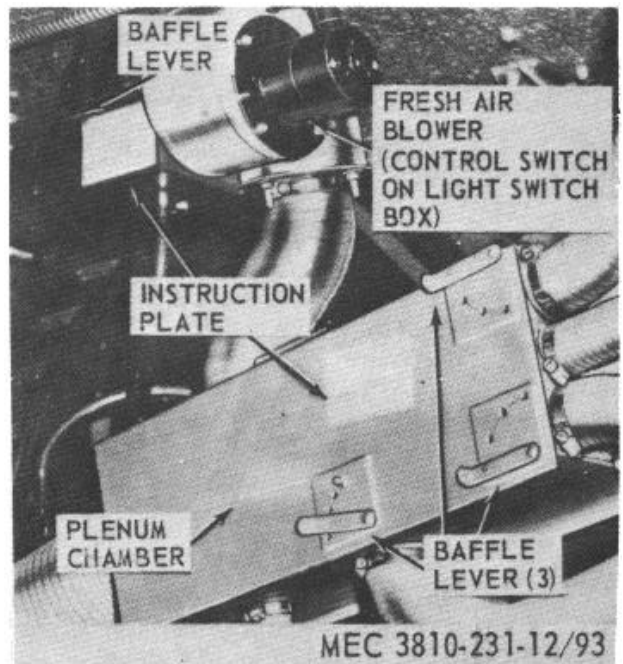

Figure 93. Plenum chamber and fresh air blower.
b. Cab heating and defrosting functions are accomplished by manipulation of baffle levers on large plenum chamber (fig. 93).
- (1) Direct heated air to cab ducts by use of baffle levers on plenum chamber as directed by instruction plate. Begin defrost function after cab has become noticeably warmer.
- (2) A blower is provided to produce an increase in volume of air sent through system. An automatic control will operate blower in accordance with preset temperatures. The blower switch is located on light switch box. Movement of baffle lever behind blower (fig. 93) will select warmed inside air, or introduce fresh outside air to the system. Choose position indicated on instruction plate.
Each plenum chamber has a series of baffle levers to control amount and direction of heat to various connecting ducts. Instructions for movement of these baffle levers is provided by an instruction plate mounted on each plenum chamber. A typical chamber is illustrated in figure 93.